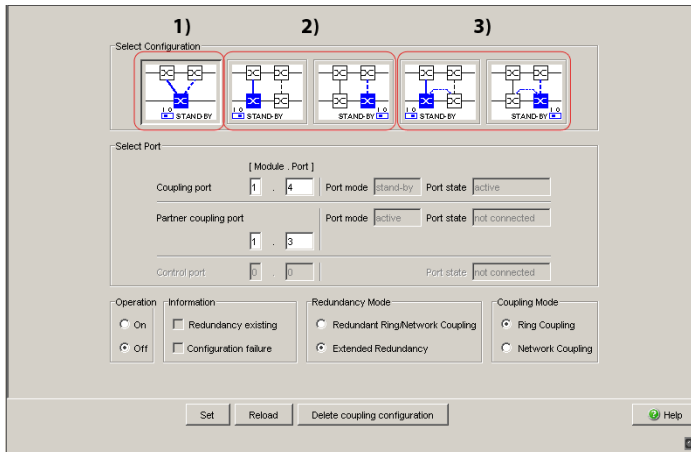

Figure 19: Choosing the ring coupling configuration (when the DIP switch is off, or for devices without a DIP switch)
- You first select the configuration you want: One-Switch coupling ("1"), two-Switch coupling ("2") or two-Switch coupling with control line ("3"), (see figure 19).